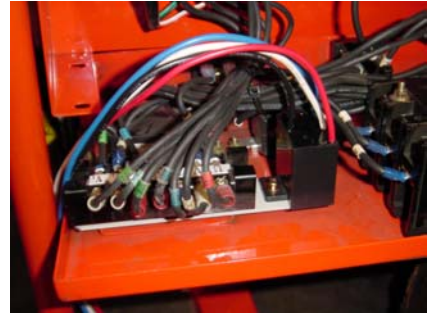

Figure 11. Terminal Board Installation
6. Install the mounting bracket underneath the terminal board (Figure 11). Align the holes on the on the mounting bracket with the holes on the terminal board. Insert the screws and associated hardware into the terminal board mounting holes and tighten securely.